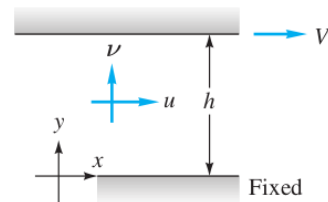

Fig. 6.15
- 6.15** Suppose in Fig. 6.15 that $h = 3 \text{ cm}$, the fluid in water at 20°C, and the flow is turbulent, so that the logarithmic law is valid. If the shear stress in the fluid is 15 Pa, what is V in m/s?